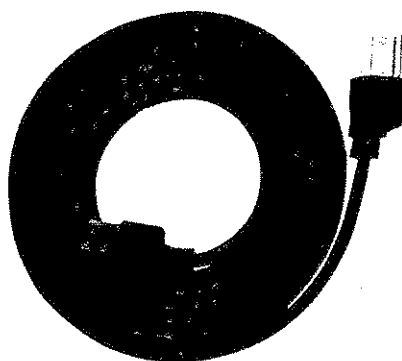

Figure 1. HP Model 11720A 2-18 GHz Pulse Modulator and Accessory Supplied
2. This Operating and Service Manual contains information required to install, operate, test, adjust, and service the Hewlett-Packard 11720A 2–18 GHz Pulse Modulator. Figure 1 shows the 11720A and all supplied accessories.